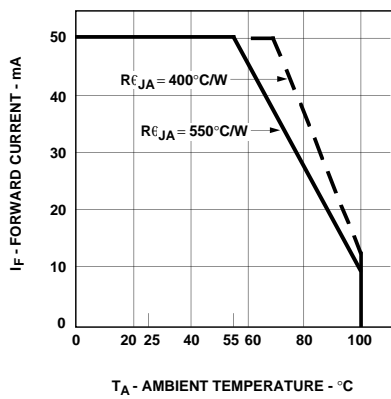

Figure 5. Maximum Forward DC Current vs. Ambient Temperature. Derating Based on  $T_{JMAX} = 110^\circ\text{C}$ .
3. Derate linearly as shown in Figure 5.